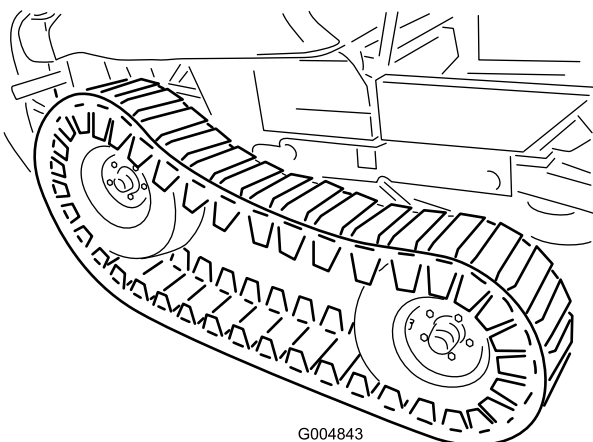

Figure 31
24. Adjust the floor jack to a suitable height to install the front tire. With another person, lift the front of the track enough to carefully install the front tires (Figure 31).